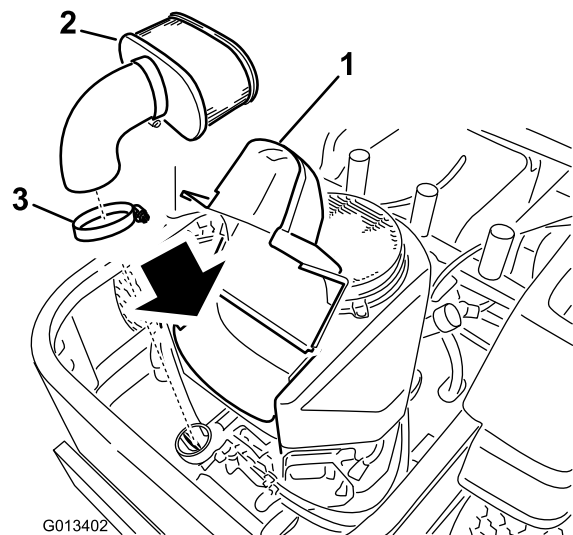

Figure 29
3. Clean around the air cleaner to prevent dirt from getting into the engine and causing damage. Loosen the two plastic knobs on the cover and remove the air cleaner cover (Figure 29).
4. Unscrew the wing nuts and remove the paper element (Figure 29).